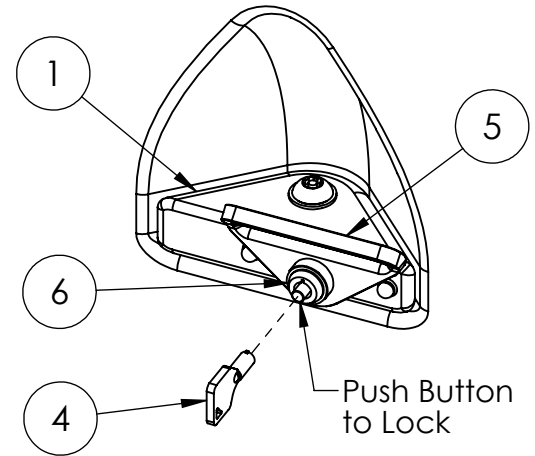

Fig. 4
After the Restraint Ring Pin (6) and Ring (5) are assembled to the Restraint Block (1), push the Button on the Pin to lock (Fig. 4).